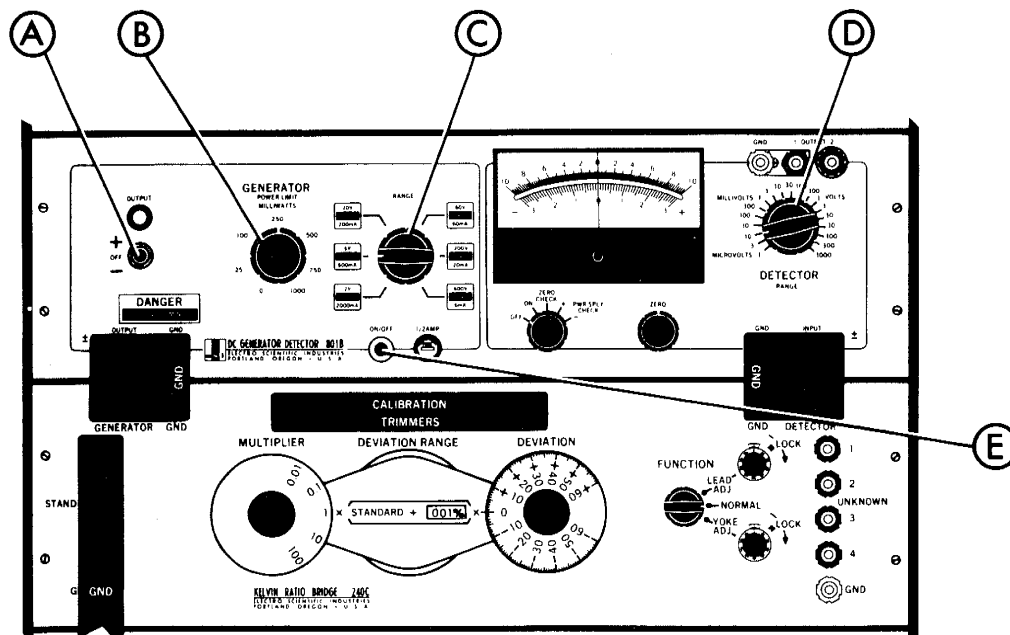

Figure 5-2. Generator-Detector Dial Settings
1. Set the Model 242D Generator Detector controls to measure a 10 ohm resistor. Reference Figure 5-2.